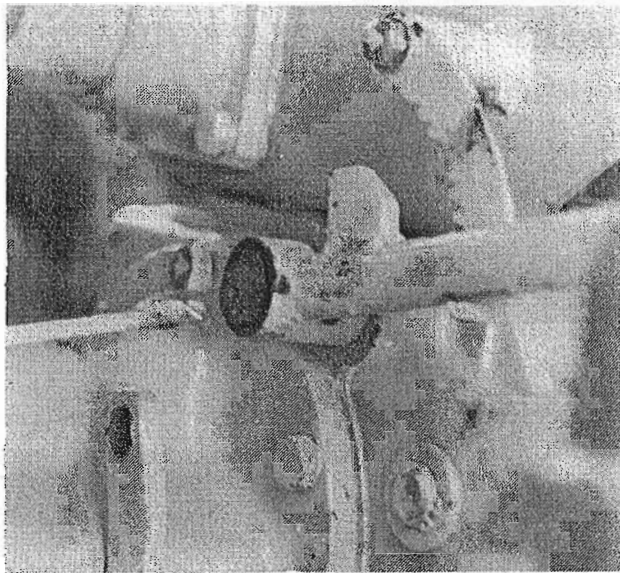
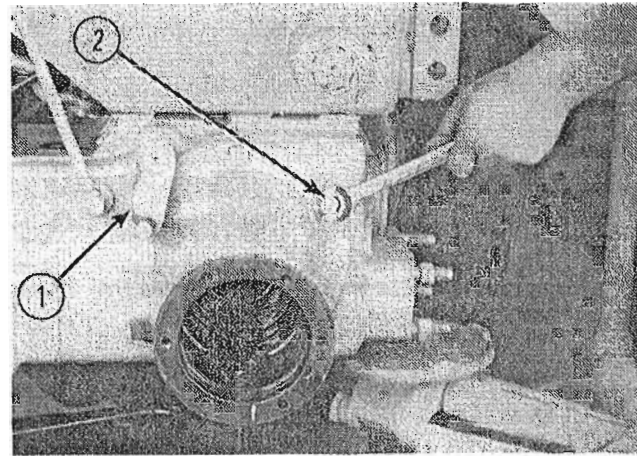

FIG. 5
FIG. 6
Now right axle housing is clear for removal. (See Figure 5.) The left axle housing is cleared for removal by rotating rock-shaft. (1, Fig. 6)
Remove (6) 10 x 30 mm. hex bolts holding axle housing to differential housing (2, Fig. 6) and remove axle housing.